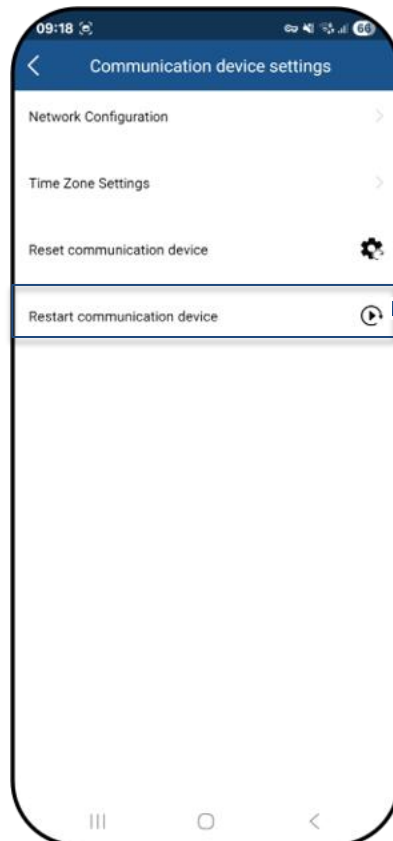

Fig. 73. Restart the communication device.
- ↻ The connection shown in the block diagram Fig. 73 has been established.